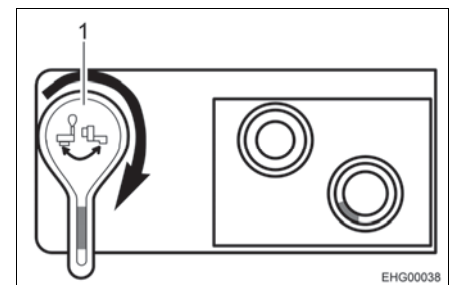

Fig. 83 Drain cock, open
- Open the drain cock. In order to do this, turn the lever of the drain cock through 90° in a clockwise direction (see Fig. 83,1).